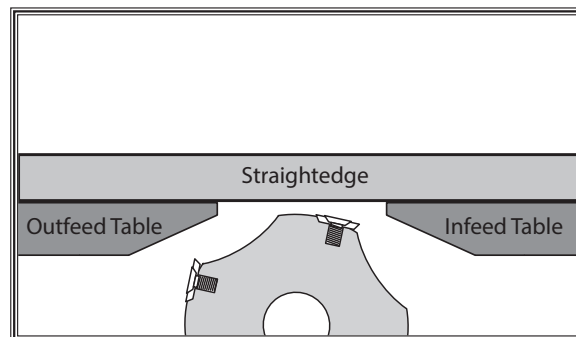

Figure 31. Infeed and outfeed table height set evenly.
2. Insert included Torx driver into cutterhead rotation guide and rotate cutterhead so inserts will not interfere, then place straightedge on infeed and outfeed tables and adjust infeed table even with outfeed table, as shown in **Figure 31**.